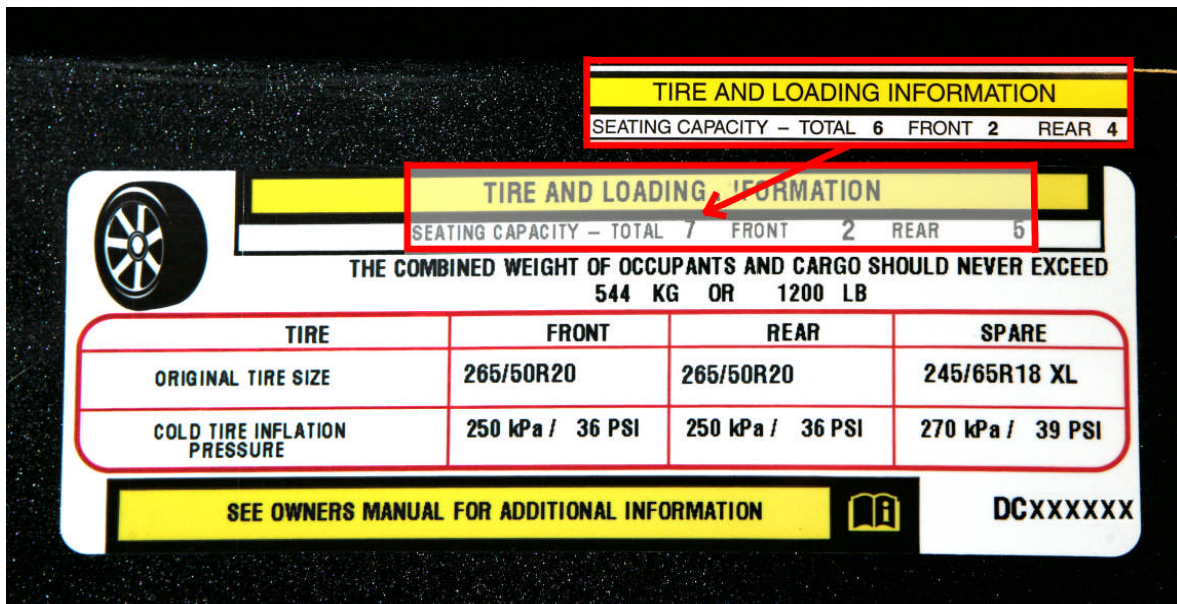

Figure 2 – Tire and Loading Information Label with Overlay
3. Remove the enclosed Overlay label from its paper backing and carefully install it over the seating section of the Tire and Loading Information label (Figure 2). Firmly press and smooth the label to the surface of the existing Tire and Loading Information label to ensure good adhesion.